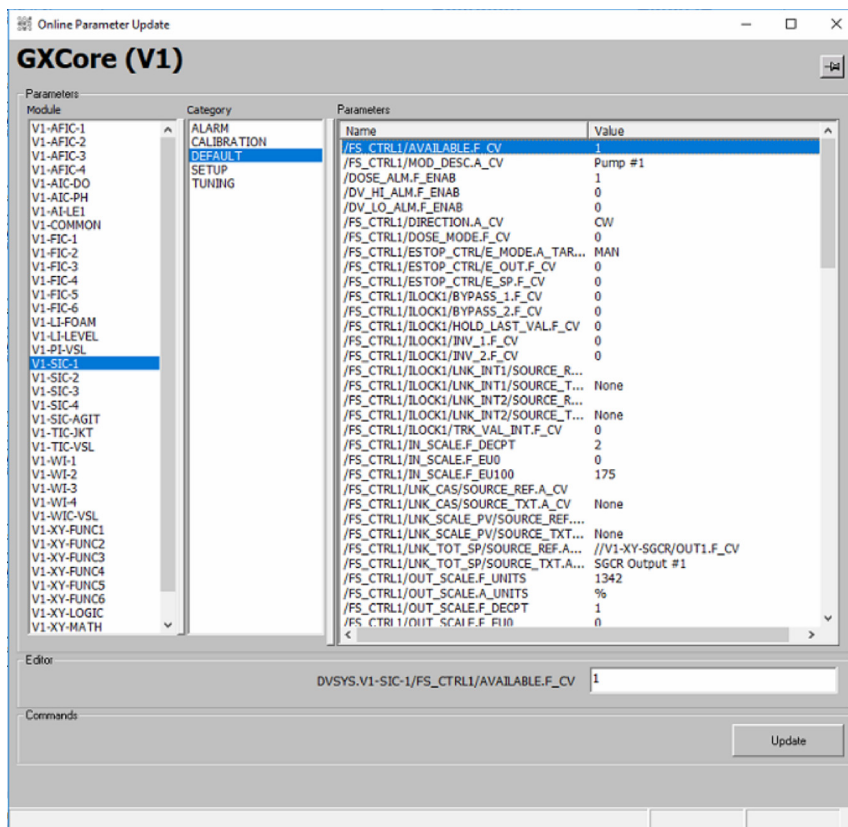

Figure 5.31. Multi-feed pumps enabled on the OPU.
- In the **Parameters** column, locate the **Name** string **/FS_CTRL1/AVAILABLE.F_CV**. Click the string to highlight it (Figure 5.31).